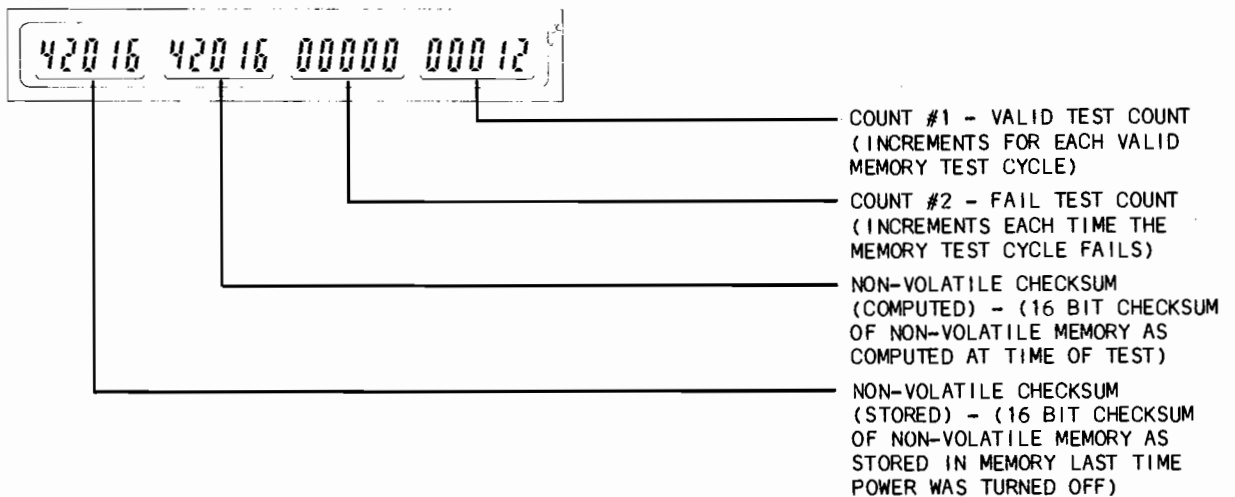

Figure 3-6 LCD Readout on Self Test 1
9. Press "MENU,V" sequentially on KEYBOARD (20). Verify LCD Manual Data, Memory Recall, Memory Storage and Self Test Menus are displayed.
10. Select Self Test Menu on CRT (50).
11. Press "EXEC,1,ENTER" on KEYBOARD (20). Verify LCD (21) read-out displays as in Figure 3-6.